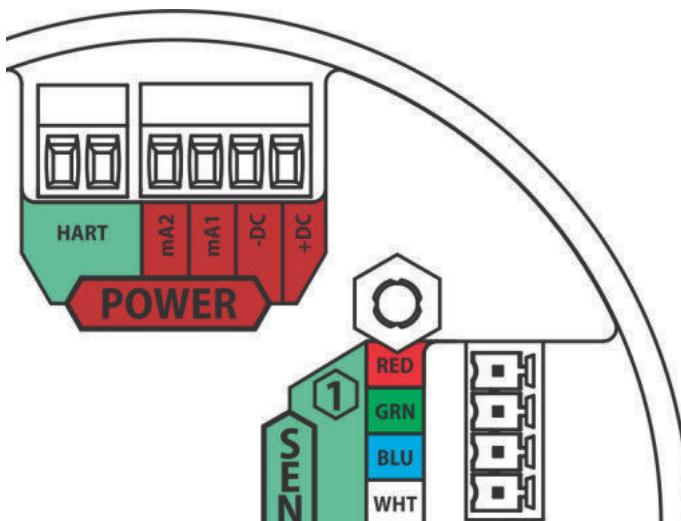

Fig. 19 Power, HART, and Sensor Inputs
Incoming power and signal cables should be a braided shield cable such as Alpha Wire 3248 or equivalent. The braided shield must be terminated to the instrument housing with a 360 degree connection to earth ground as shown in Figure 19 or alternatively, the earth ground at the user's power source location. An external Class 2 power supply is required to supply 10-30 VDC to the ULTIMA X5000. Incoming power and signal cables should be a braided shield cable such as Alpha Wire 3248 or equivalent.
- (1) Remove the ULTIMA X5000 cover by turning counter-clockwise.
- (2) Pull on the metal bail, removing electronics, to expose sensor and power connections.
- (3) Remove the red colored power connector.
- (4) Use a small, flat head screw driver to open wire entries on the connector.
- (5) Strip cable jacket to expose shield and the four individual wires.
- (6) Connect the power and analog output wires. Wire locations are marked on the cover plate (see Fig. 19):